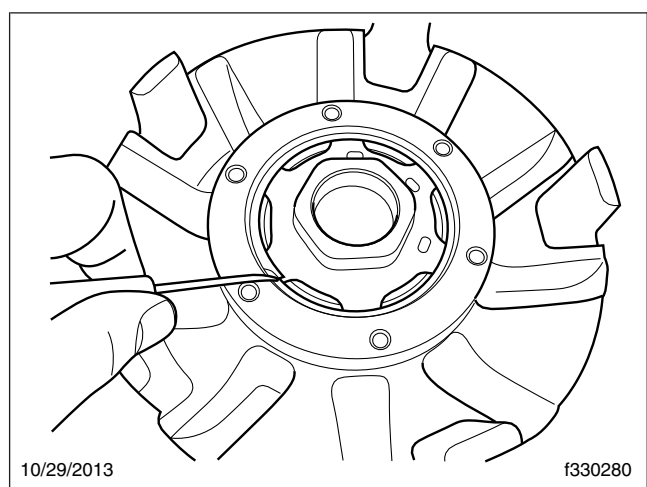

Fig. 4, Removing a Spiral Snap Ring
- 7.2 Loosen the spindle nut. As the spindle nut is loosened, it can act as a hub puller. However, if the hub will not come off of the spindle without exceeding 50 lbf-ft (68 N·m) of torque, remove the spiral snap ring (see **Fig. 4**) and then the spindle nut assembly.